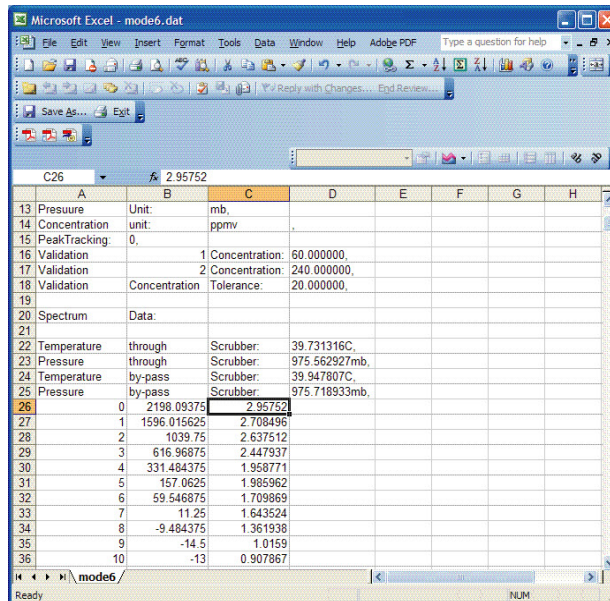

Figure 3-9 Highlighting imported data for plotting in Excel
4. Click on the upper right cell of the three columns, as shown in Figure 3-9. Hold the **Shift** key down while pressing the **End** key followed by the **Down Arrow** key to highlight the third column. Keep holding down the **Shift** key and press the **End** key followed by the **Left Arrow** key to select the three columns by 512 rows.